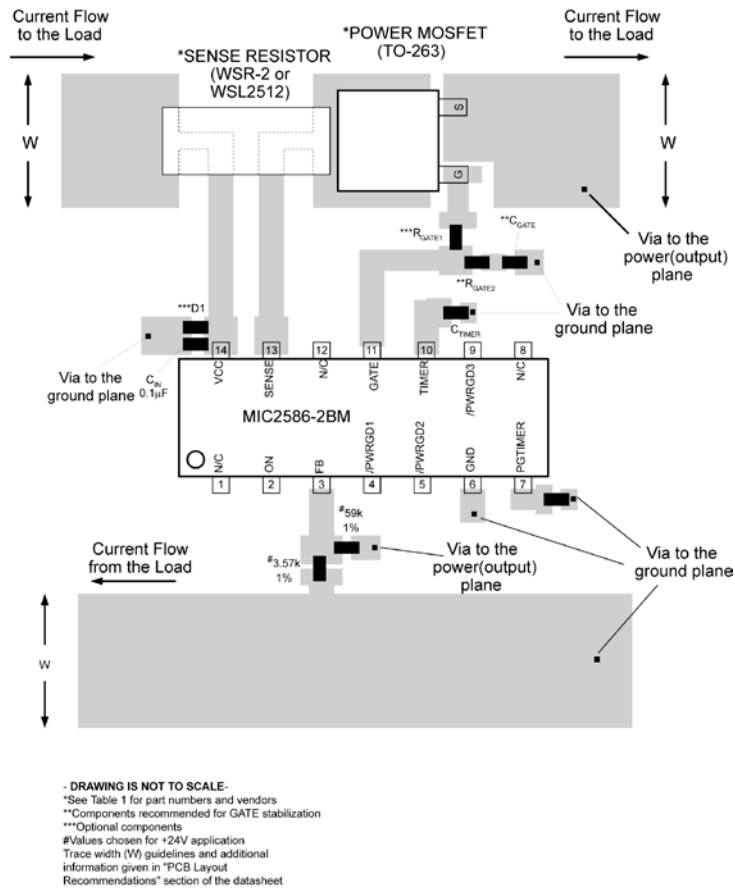

Figure 10. Recommended PCB Layout for Sense Resistor, Power MOSFET, Timer, and Feedback Network
Figure 10 is a recommended PCB layout diagram for the MIC2586-2BM. Many hot swap applications will require load currents of several amperes. Therefore, the power (V_{CC} and Return) trace widths (W) need to be wide enough to allow the current to flow while the rise in temperature for a given copper plate (e.g., 1oz. or 2oz.) is kept to a maximum of 10°C to 25°C. Also, these traces should be as short as possible in order to minimize the IR drops between the input and the load. The feedback network resistor values in Figure 10 are selected for a +24V application. The resistors for the feedback (FB) and ON pin networks should be placed close to the controller and the associated traces should be as short as possible to improve the circuit's noise immunity. The input "clamping diode" (D1) is referenced in the typical application circuit. If possible, use high-frequency PCB layout techniques around the GATE circuitry (shown in the typical application circuit) and use a dummy resistor (e.g., $R_3 = 0\Omega$) during the prototype phase. If R_3 is needed to eliminate high-frequency oscillations, common values for R_3 range between 4.7Ω to 20Ω for various power MOSFETs. Finally, the use of plated-through vias will be needed to make circuit connection to the power and ground planes when utilizing multi-layer PCBs.